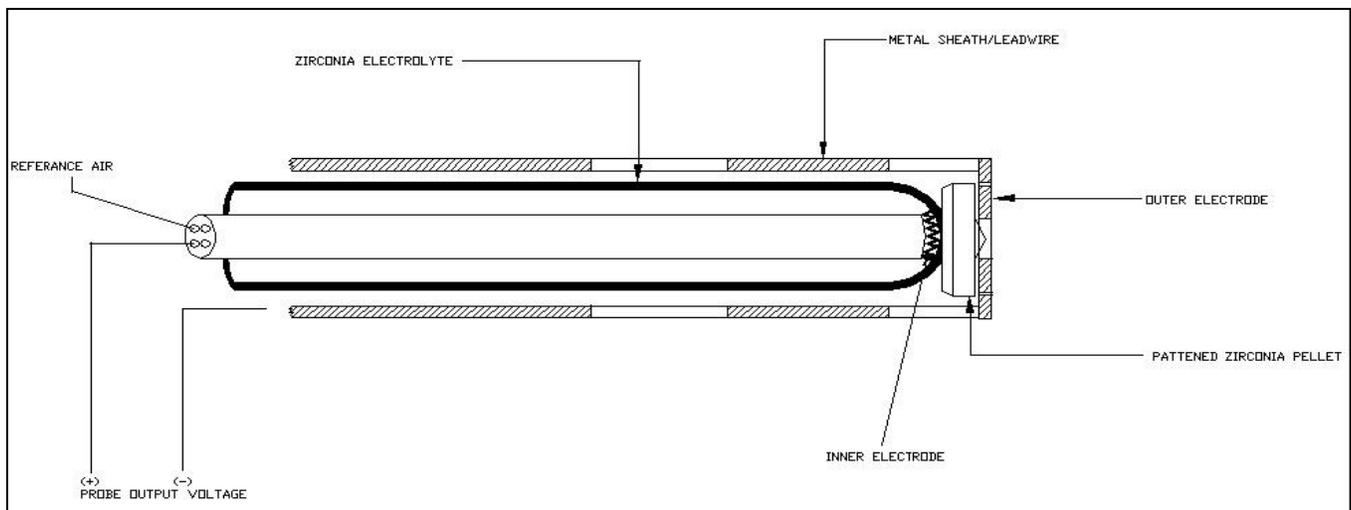

Figure 2
4. The AccuCarb® probe design has many patented features that cover the electrodes (See Figure 2).